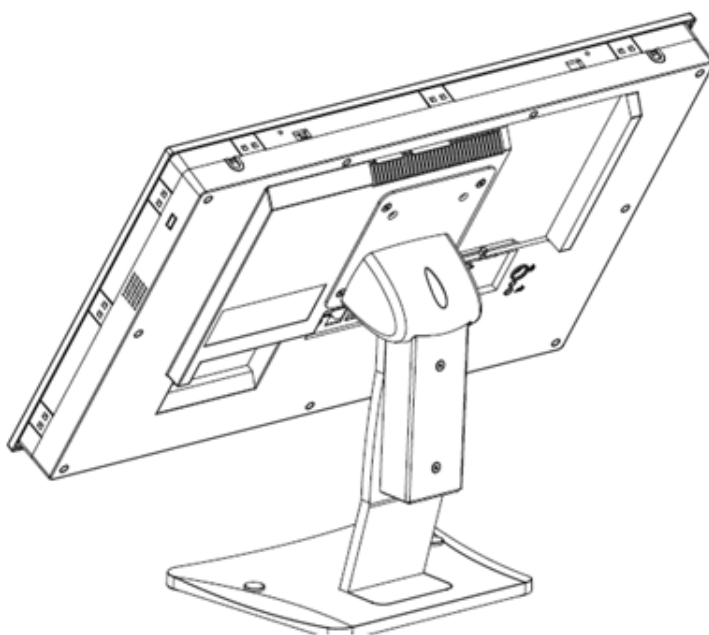

**Figure 2.37 Securing the VESA mount bracket**
4. Use one M4 x 5L screw to secure the stand mount hinge cover (Figure 2.37).